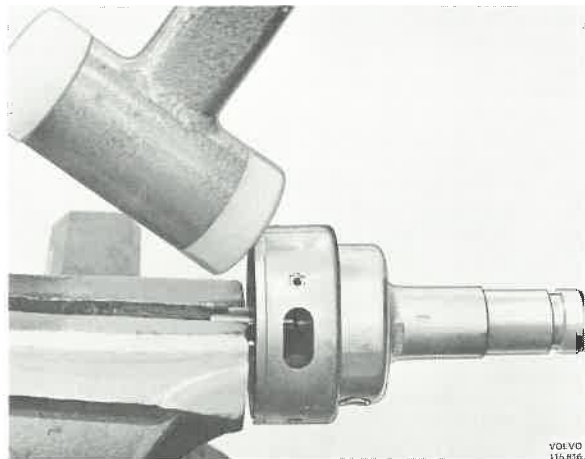

Fig. 34-12. Removing breaker cam
5. Fix the breaker cam in a vice with soft jaws. Carefully tap on the distributor housing with a plastic mallet until the circlip loosens, see Fig. 34-12.